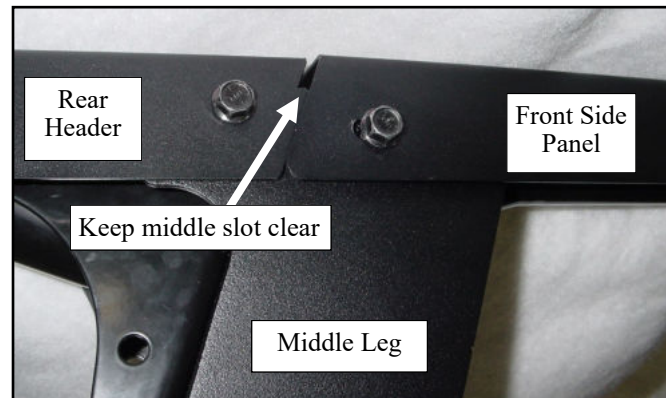

Fig. 5.2 (view of passenger's side)
5.2 Fasten front side panels to the middle panel using the hardware listed below, as shown in Figure 5.2.
6.2 Per fig. 5.2, fasten the rear header to the middle leg.
Note: Verify slot in middle leg, between rear header and front side panel, is clear prior to tightening bolts. (see Figure 5.2)